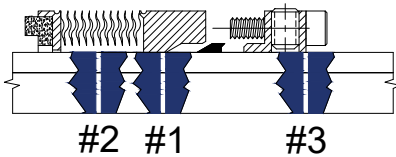

Figure 14: Step 7.
7. Lightly lubricate the shaft packing with a suitable and compatible lubricant. Slide the drive hub and packing on the shaft in the proper orientation facing the end of the bellows assembly (Figure 14).